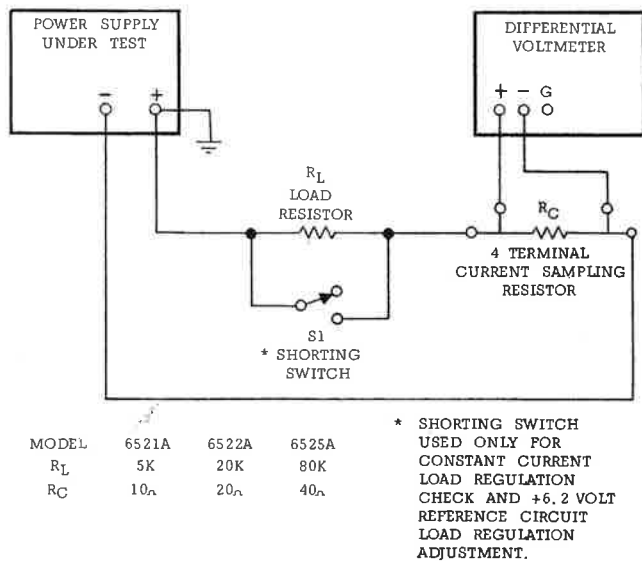

Figure 5-4. Constant Current Test Setup Diagram
- a. Connect test setup shown in Figure 5-4.
a. Connect test setup shown in Figure 5-4. Close shorting switch.
a. Connect test setup shown in Figure 5-4 except replace the differential voltmeter with the AC voltmeter.
a. Connect test setup shown in Figure 5-4.